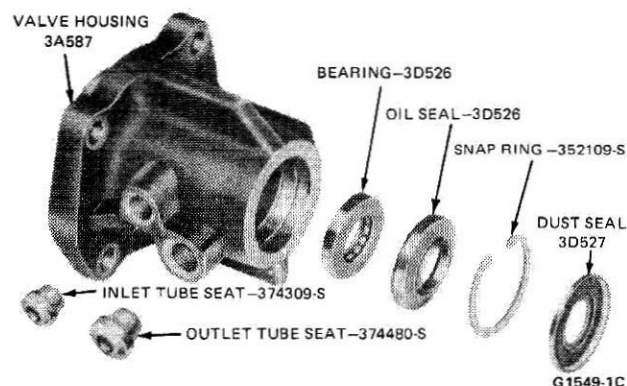

FIG. 9 Valve Housing Disassembled
1. Remove the dust seal (Fig. 9) from the rear of the valve housing, using Tools T59L-100-B and T58L-101-A. Discard the seal.